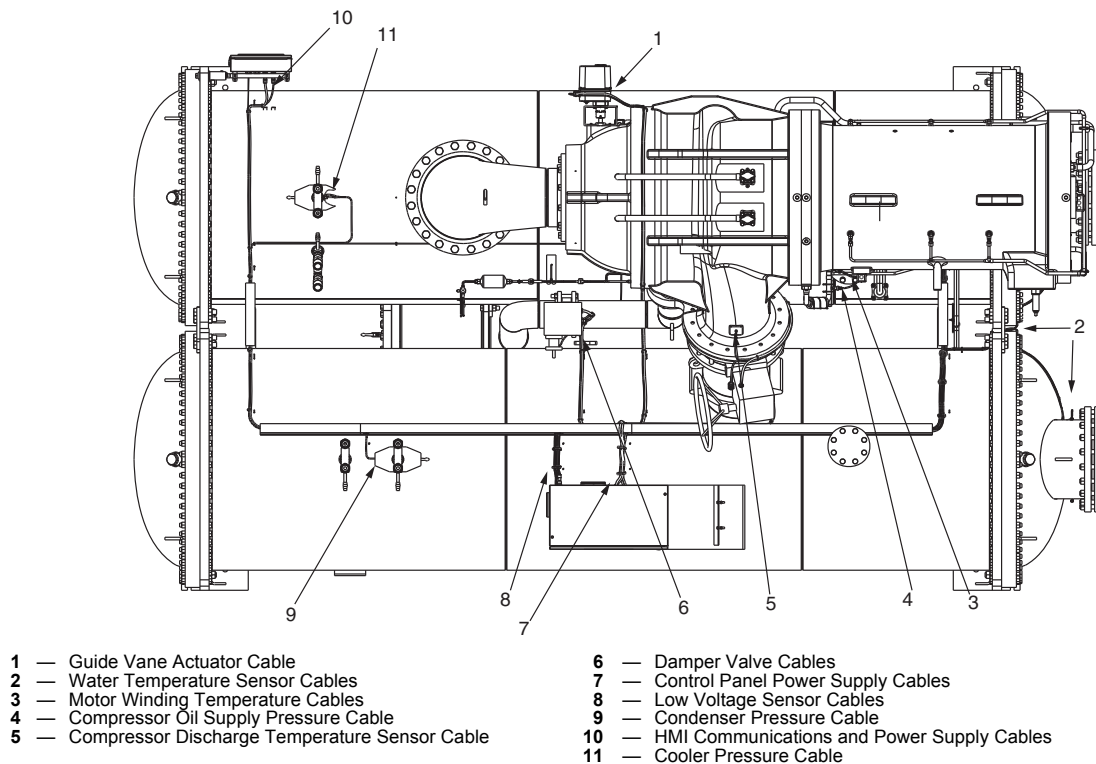

Fig. 29 — Chiller Top View (Compressor Frame Size 6 Shown), 19XR6/7
- c. wires and cable housings at the control panel that cross from the control panel to the cooler vessel (Fig. 29).
- d. wires and cable housings that cross from the power panel to the starter and control panel (Fig. 29)